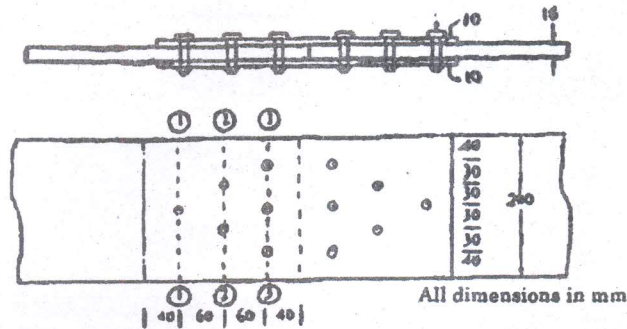

Fig. 1
11. Find the maximum force which can be transferred through the double covered butt joint shown in Fig. 1. Find the efficiency of the joint also. Given M20 bolts of grade 4.6 and Fe410 steel plates are used.